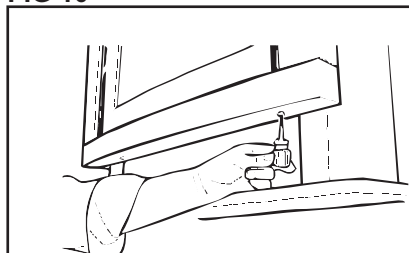

FIG 13
3. To remove the front heater surround, undo two screws (one either side) from the bottom flange of the front panel as indicated in **FIG 13**.